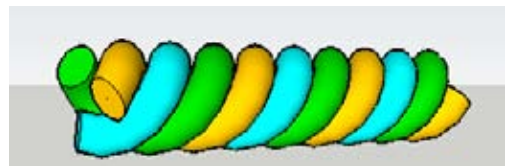

Figure 2-100
- To complete the rope, make rotated copies of it. This is easiest to do in Front view, placing the protractor at the model origin. (You can set the protractor in the desired orientation, hold Shift to lock the orientation, and then click the origin to place it.) The resulting rope coil shown in Figure 2-100 shows two copies (three total spirals), each separated by 120 degrees.